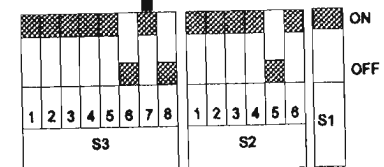

Figure 10
- a) Set switch **WK4:S3-7** to "ON" position (large MF selected) (see Figure 10).